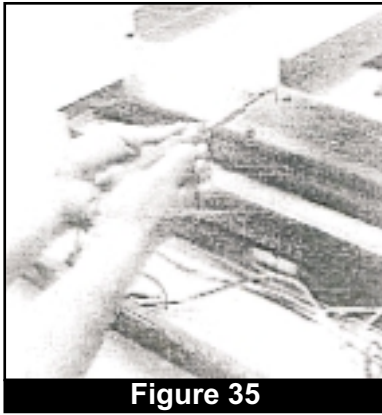

Figure 35
5. Remove the fan blower motor assembly cover (on the left side of module as you are facing the front panel) by removing the two front and two rear screws with a medium (6") flathead screwdriver. (Fig. 35)